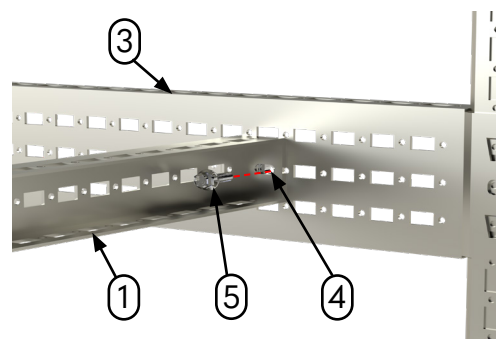

Figure 2
- From inside the profile, fasten using an M6 screw (Item 5) into the previously installed cage nut (Figure 2).